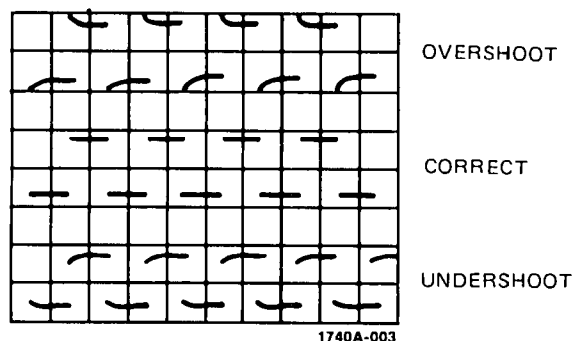

Figure 3-2. Probe Compensation
b. Connect divider probe cable to channel A INPUT ⑮ connector.
- h. Adjust divider probe compensation for correct display (see figure 3-2).